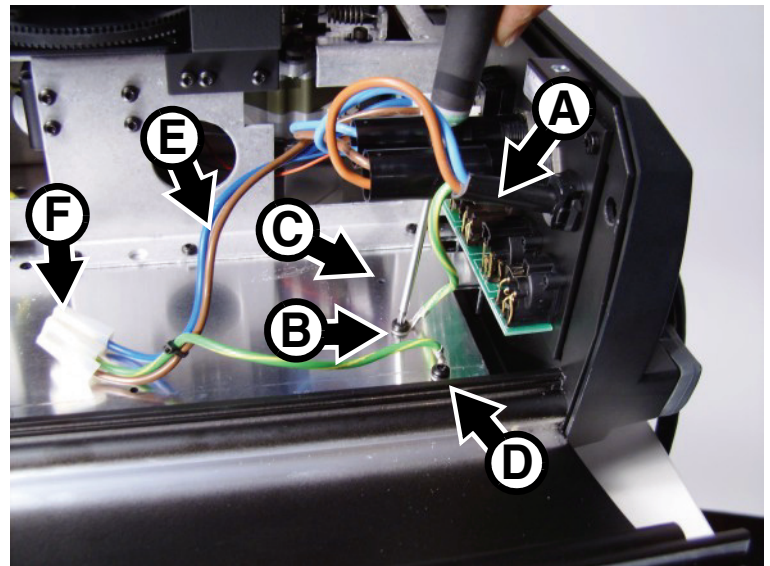
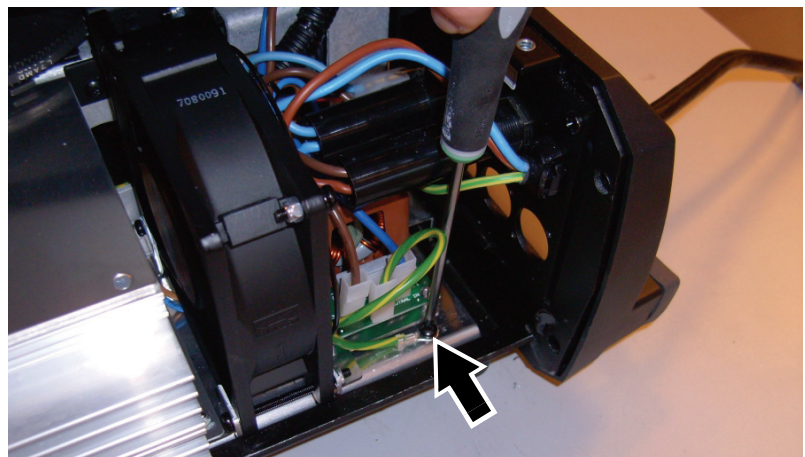

Figure 18
Figure 36
19. See Figure 18. You must now relocate the mains input cable ground (earth) lead to make space for the new ballast. First, strip some of the outer insulation from the mains cable at **A**.
20. See Figure 18. Unscrew the Torx 20 screw **B** (P/N 08070701) that fastens the lead to the metal base plate. Throw this screw away. Move the mains input cable ground lead to the existing hole **C** in the base plate and fasten it to the base plate with one of the new Torx 20 screws, P/N 08070701, supplied in the Upgrade Kit (see “V” in Table 1). To make sure the lead does not foul the new ballast, fasten the screw with the lead trailing out towards the fixture’s XLR connectors.
Warning! For safety reasons, the two ground (earth) leads – one from the fixture’s mains input cable and one from the mains filter on the ballast assembly – shown at **B** and **D** in Figure 18 **MUST** be fastened to the base plate separately with two separate screws when the new ballast assembly is installed. **DO NOT** take a short-cut and use one single screw to fasten these two ground leads to the base plate together, or you will create a safety risk, void the product warranty and make the product illegal.
40. See Figure 36. Stand the fixture upright again and fasten the mains filter ground lead to the base plate, re-using the original screw in the hole arrowed in Figure 36 and shown at **D** in Figure 18 on page 10.